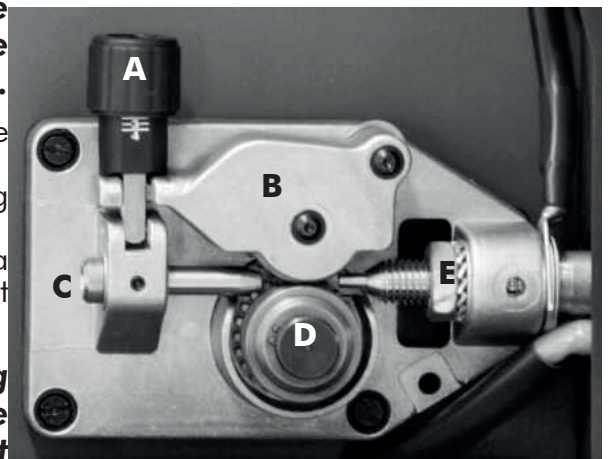

Figure 3
- Loosen and lower the plastic knob (A) (Fig.3). Open the pressure arm (B) of the feeder.
- Cut off a short section of the end of the wire to insure a straight end. Insert the the straight end into the wire inlet guide (C) past the wire feed roll and into the wire liner.